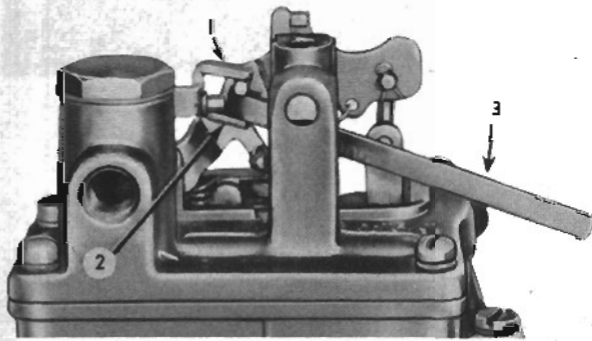

FIG. 39
After adjusting the top finger of the vacuum piston link, remove the metering rod gage, check the clearance between the bottom of the pump operating lever pin (1, Fig. 39) and the bottom finger of the vacuum piston link (2), using a $3/16''$ (4,76 mm.) gage (3) (Float Gage J-818-3). If an adjustment is necessary, using Adjusting Tool J-1389, bend the lower finger of the vacuum piston link to obtain the proper clearance.